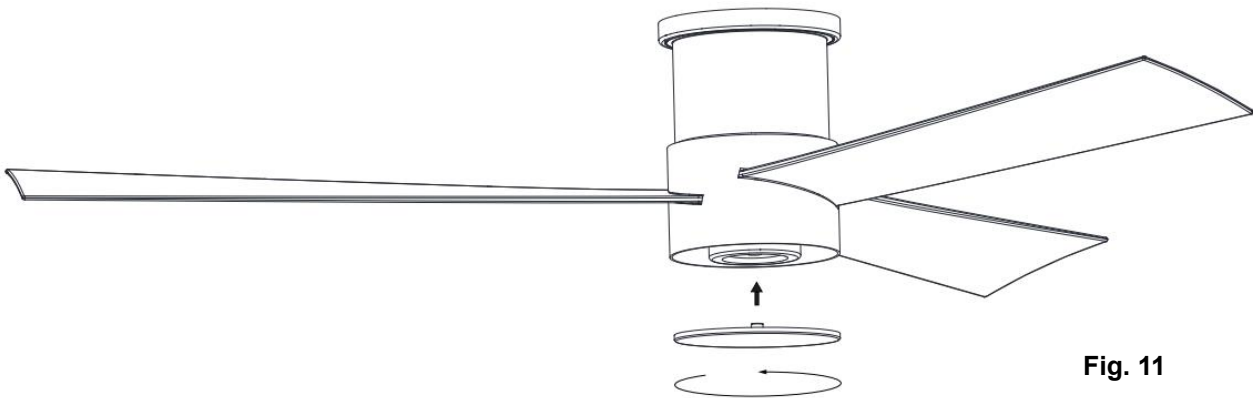

Fig. 11
5. Install the bottom cover on the adapter, then secure it by turning clockwise. (Fig.11)